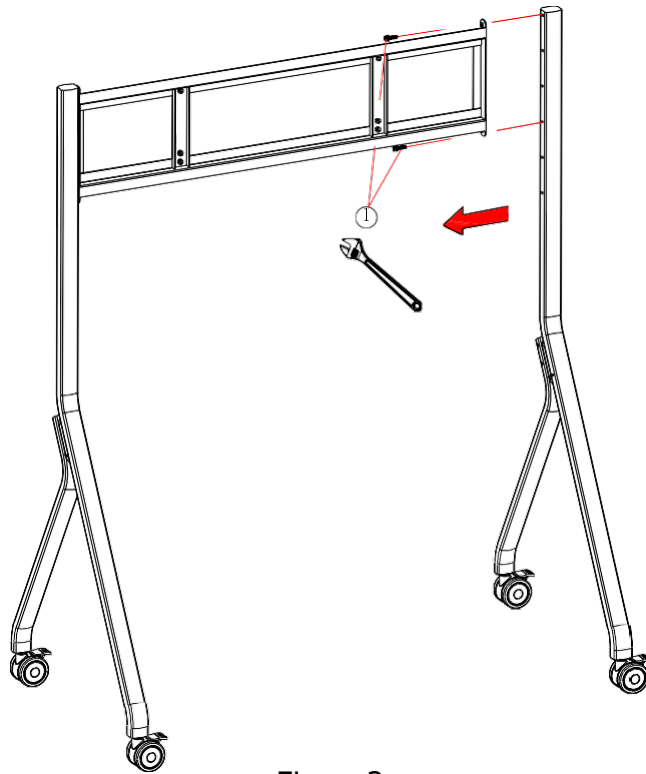

Figure3
Step 3: Lock the hanging holder on the side edge of another stand foot. (Figure 3)